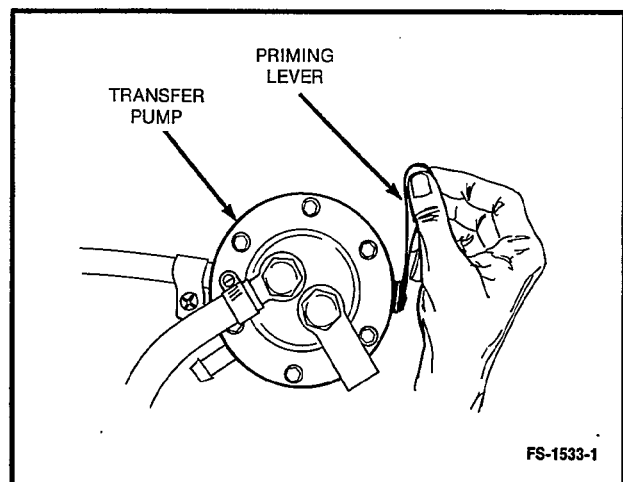

FIGURE 5-5. FUEL TRANSFER PUMP
4. Actuate the priming level (Figure 5-5) on the side of the transfer pump. When fuel flows free of air bubbles, close bleed screw. Collect waste fuel in a container and wipe assembly dry.